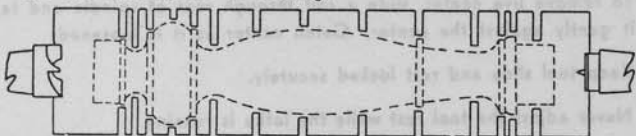

Fig. 4
3. If any shape other than a cylinder is desired, size the work by cutting grooves with a parting tool as shown in figure 4. Using a pair of calipers set 1/16" larger than finish diameter, begin cut holding calipers lightly against far side of groove. When proper diameter is reached and calipers slip over work, repeat the operation at points where the diameter changes.